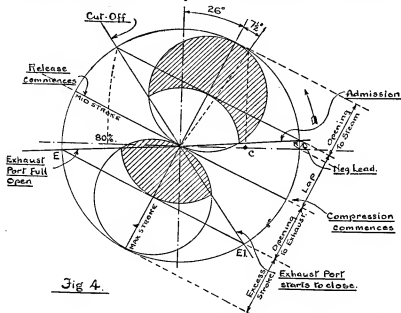

Fig. 4.
is really a picture of the valve events, and the first requirements to know for drawing it are: (1) lead of the valve, positive or negative; (2) required cut-off at full gear; (3) exhaust lap or inside lead, if any. The valve travel is known, being 0.4 of the cylinder bore, while the lap is about a quarter of the valve travel. We can now describe the valve circle, after putting in the centre-lines as shown in Fig. 4. This circle should be drawn to a scale at least ten times as large as the actual valve stroke. Set off next from the right-hand side of the circle, the cut-off as percentage of the stroke, and erect a perpendicular, produced with a compass set to the radius equal to the length of the connecting-rod; and where this cuts the circle is the relative position of the crank-pin at cut-off in its circular path. We then mark the lead point at the right-hand side of the circle, and if negative lead is to be given, we mark that above the centre-line; but if positive, below the centre line, showing that the valve would start to open before the piston is at the end of its stroke. In Fig. 4 it is shown as negative lead; the piston is then just commencing its stroke, before the valve starts to open to steam. The lead is measured by the small radius R, and then a line is drawn from the crank centre cutting the valve circle where shown touching the rad. R. With this point, and the one where the cut-off line cuts the circle, allows us to obtain the angle of advance θ° , for bisecting the two lines somewhere on the valve circumference, gives you the required angle, being measured between the radius of bisection and the vertical centre line. On this angle of advance line, we draw in two valve displacement circles as shown, and the lap of the valve is drawn in with radius equal to the port width where it should meet the point of intersection with the cut-off line and the valve circle, and the radius will also be found to meet at the intersection of the lead radial line as shown.